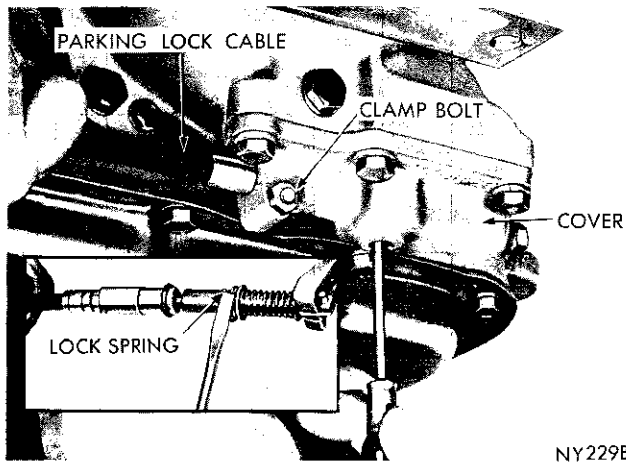

Fig. 20—Removing Parking Lock Cable
(1) Loosen the parking lock cable clamp bolt where the cable enters the housing cover (Fig. 20). Tap the end of the clamp bolt tightly to release its hold on the cable. Remove the housing cover lower plug.